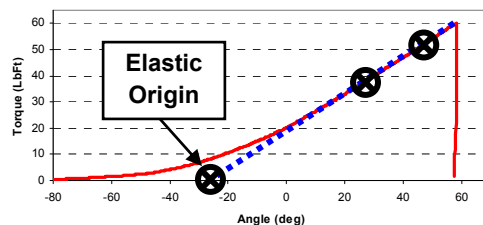

Figure 5: Locate the Elastic Origin
Step 3: Project a line through the two points to the zero torque level, locating the Elastic Origin, as depicted in Figure 5.